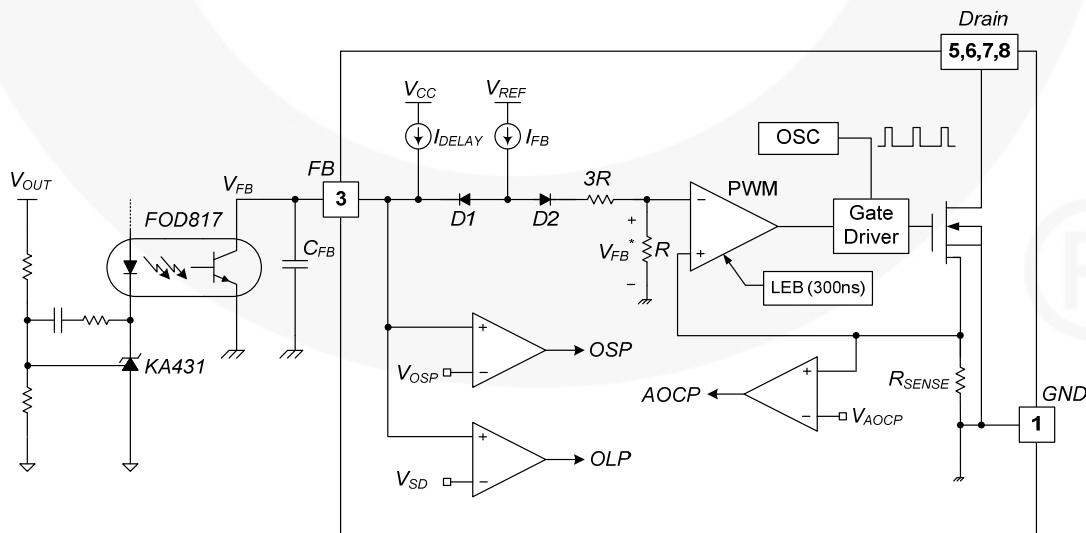

Figure 18. Pulse Width Modulation Circuit
3. Feedback Control: This device employs Current-Mode control, as shown in Figure 18. An opto-coupler (such as the FOD817) and shunt regulator (such as the KA431) are typically used to implement the feedback network. Comparing the feedback voltage with the voltage across the R_{SENSE} resistor makes it possible to control the switching duty cycle. When the reference pin voltage of the shunt regulator exceeds the internal reference voltage of 2.5V, the opto-coupler LED current increases, pulling down the feedback voltage and reducing drain current. This typically occurs when the input voltage is increased or the output load is decreased.
3.1 Pulse-by-Pulse Current Limit: Because Current-Mode control is employed, the peak current through the SenseFET is limited by the inverting input of PWM comparator (V_{FB}^*), as shown in Figure 18. Assuming that the $90\mu\text{A}$ current source flows only through the internal resistor ($3R + R = 25\text{k}\Omega$), the cathode voltage of diode D2 is about 2.8V. Since D1 is blocked when the feedback voltage (V_{FB}) exceeds 2.8V, the maximum voltage of the cathode of D2 is clamped at this voltage. Therefore, the peak value of the current through the SenseFET is limited.